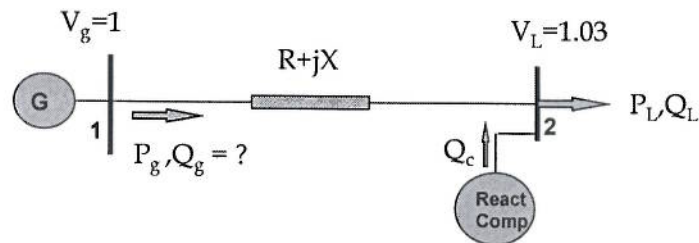

Figure 3.1 Simple two-node power system
3. Consider the simple power system in Figure 3.1. As shown in the figure, the generator maintains the voltage at 1pu at its terminals (node 1), while the compensator connected to node 2 maintains the voltage at 1.03 pu. Active and reactive power demand connected to node 2 are 0.5pu and 0.3pu respectively. Resistance and reactance of the transmission line are 0.02pu and 0.12 pu respectively.